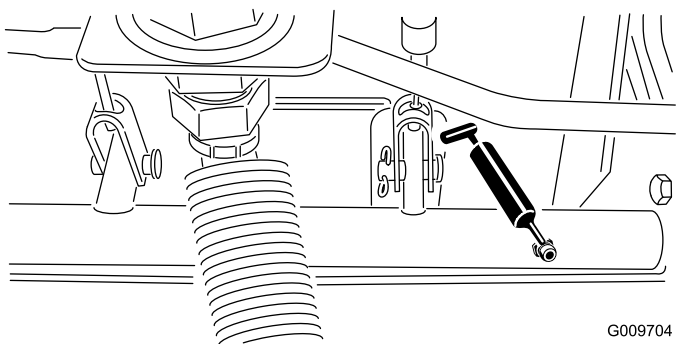

Figure 67
- Brake shaft pivot bearings (5), refer to Figure 67